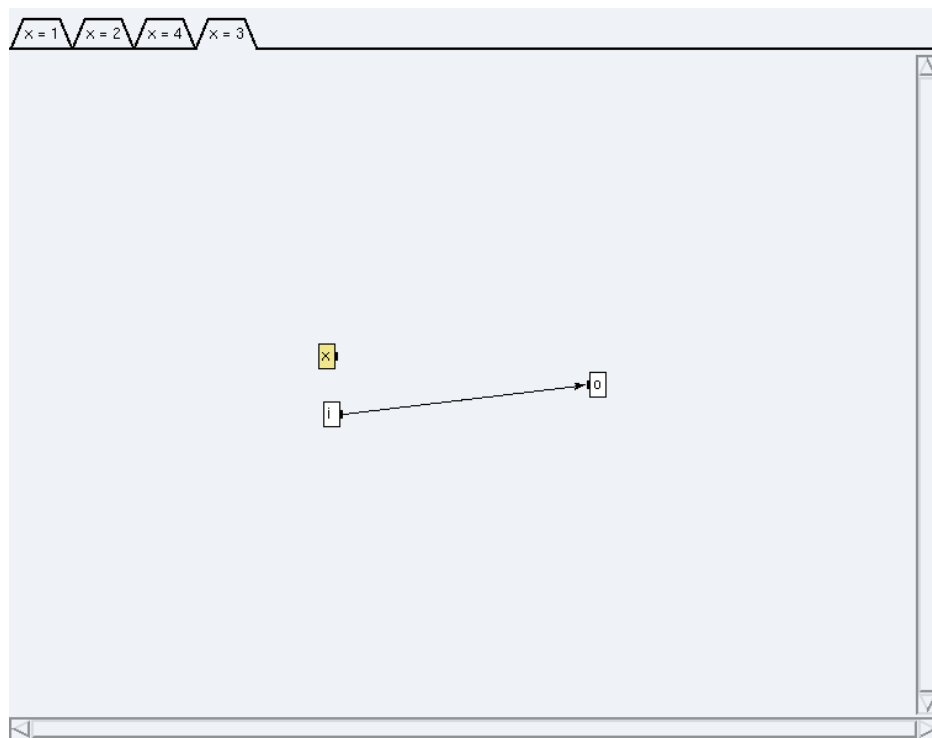

Figure 5.4: Condition $x=3$
- * click on the condition `x=3` (cf. figure 5.4) and connect the port `i` to the port `o`,